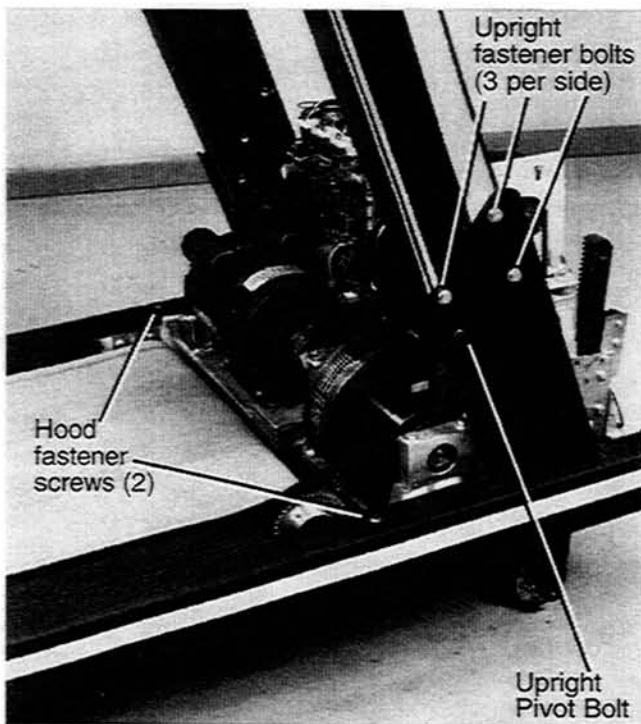

Figure 3-11. Upright Pivot Bolt and Fastening Bolts
4. Remove the six 5/16" hex-head fasteners (three per side) that allow the control panel assembly uprights to pivot down on the treadmill deck, then carefully lower them onto the deck (Figure 3-11.)
2. Remove the six 5/16" hex-head fasteners (three per side) that allow the control panel assembly uprights to pivot down on the treadmill deck, then carefully lower them onto the deck (Figure 3-11).